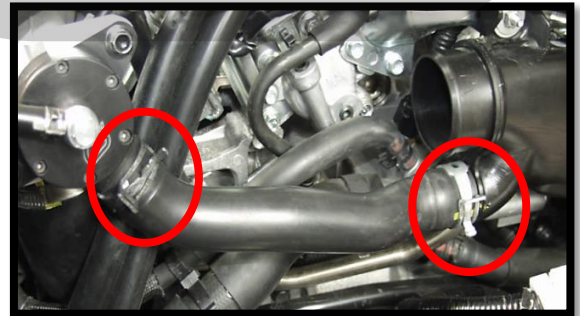

Figure 3a
- a) **Release the hose clamps on the bypass valve hose (red circles in Figure 3a) using channel lock pliers.** Remove the BPV hose from the car and save if you are re-using it. You can discard the rubber hose and spring clamps if you will be installing the CorkSport Silicone BPV Hose.